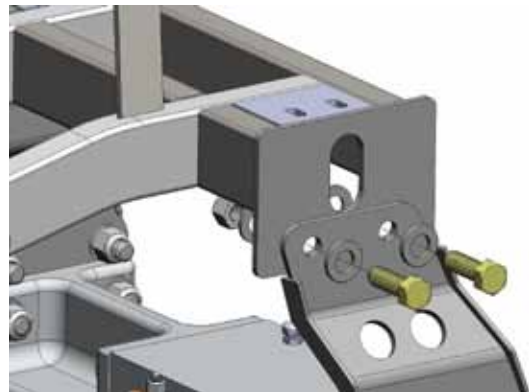

Figure 9
- c. Position the rear end assembly under and raise the unit to the Top Frame. Install supplied  $\frac{1}{2}$ -13x1-1/2" bolts, washers, and nylock nuts. See Figure 9. Leave these loose for now to allow for alignment purposes.